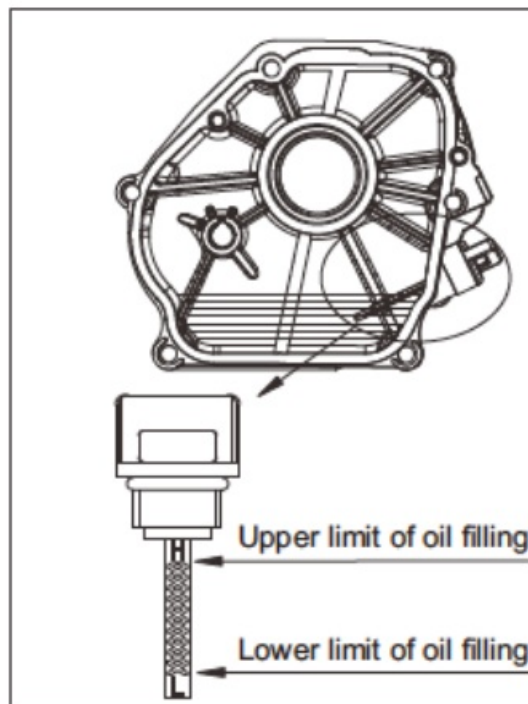

Fig. 8
2. Unscrew the oil fill cap and wipe the oil off the dipstick. (Fig. 8) Screw the dipstick back in, remove it again and read the oil level on the cross hatched marks.